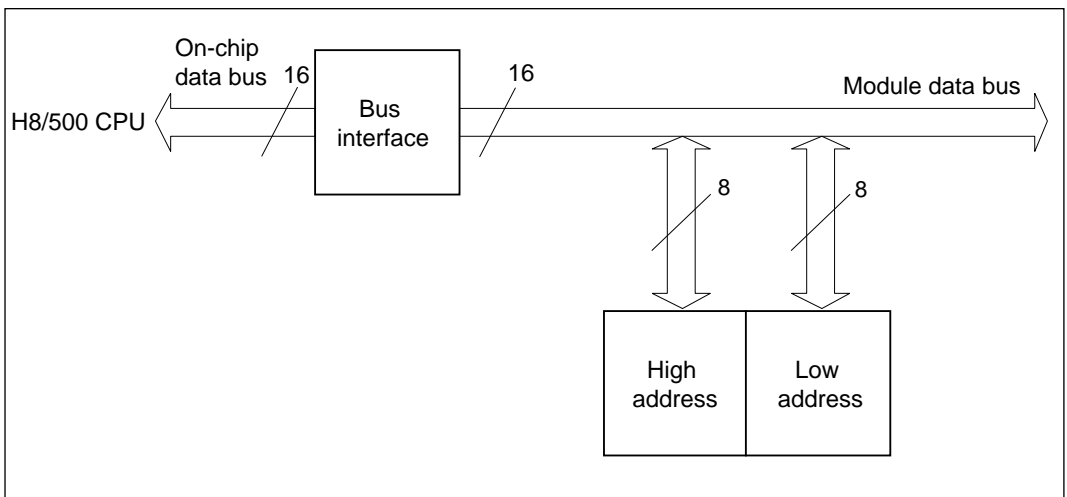
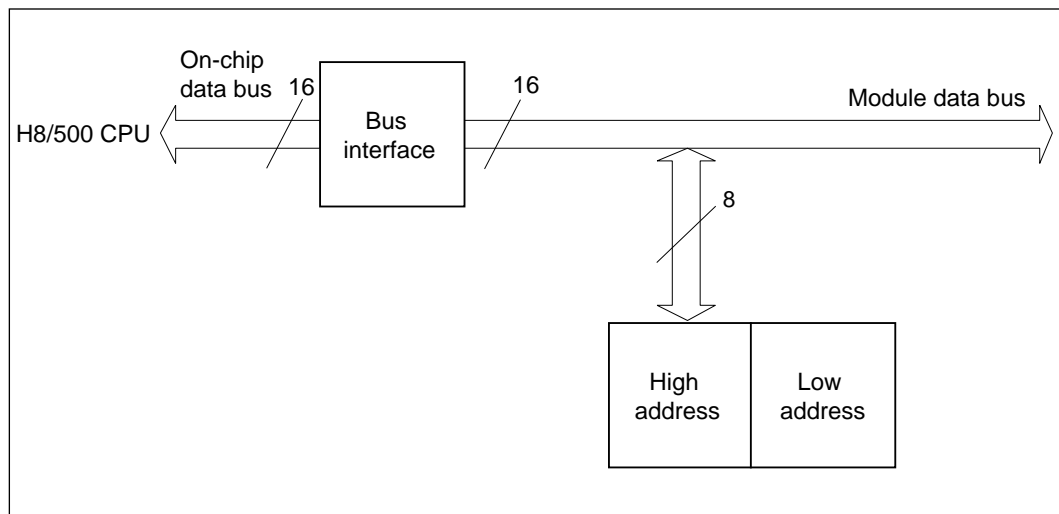
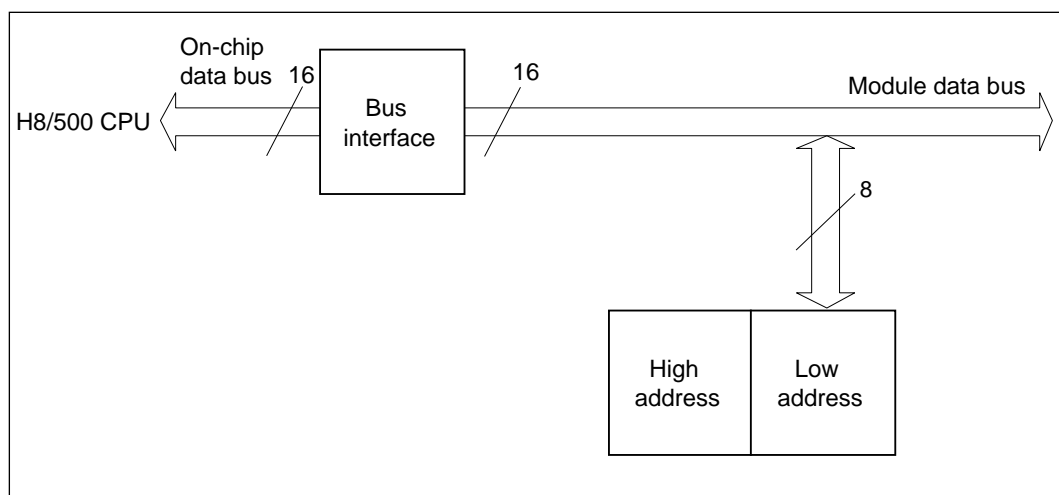

Figure 11-7 Word Read/Write Operations
Figure 11-8 Upper Byte Read/Write Operations
Figure 11-9 Lower Byte Read/Write Operations
- Read and Write Operations:** Timer counters, general registers, and dedicated registers can be written and read a word at a time or a byte at a time. Figure 11-7 illustrates word read/write operations. Figure 11-8 illustrates upper byte read/write operations. Figure 11-9 illustrates lower byte read/write operations.